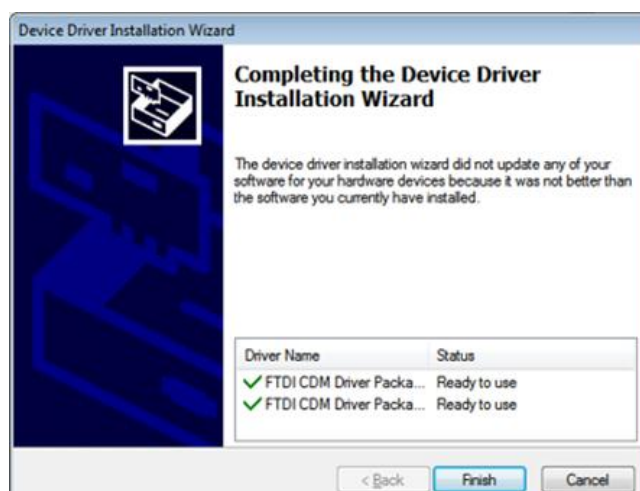

Fig. 3.30
4) Wait to complete the installation (Fig.3.30).